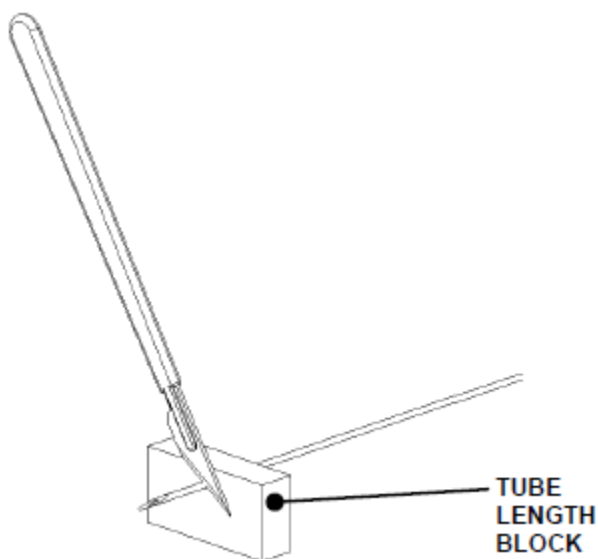

Figure U-41: Cutting the Tubing
8. With a scalpel, cut the excess tube off the cut (pointed) end of the tube flush with the cutting face of the block (Figure U-41).